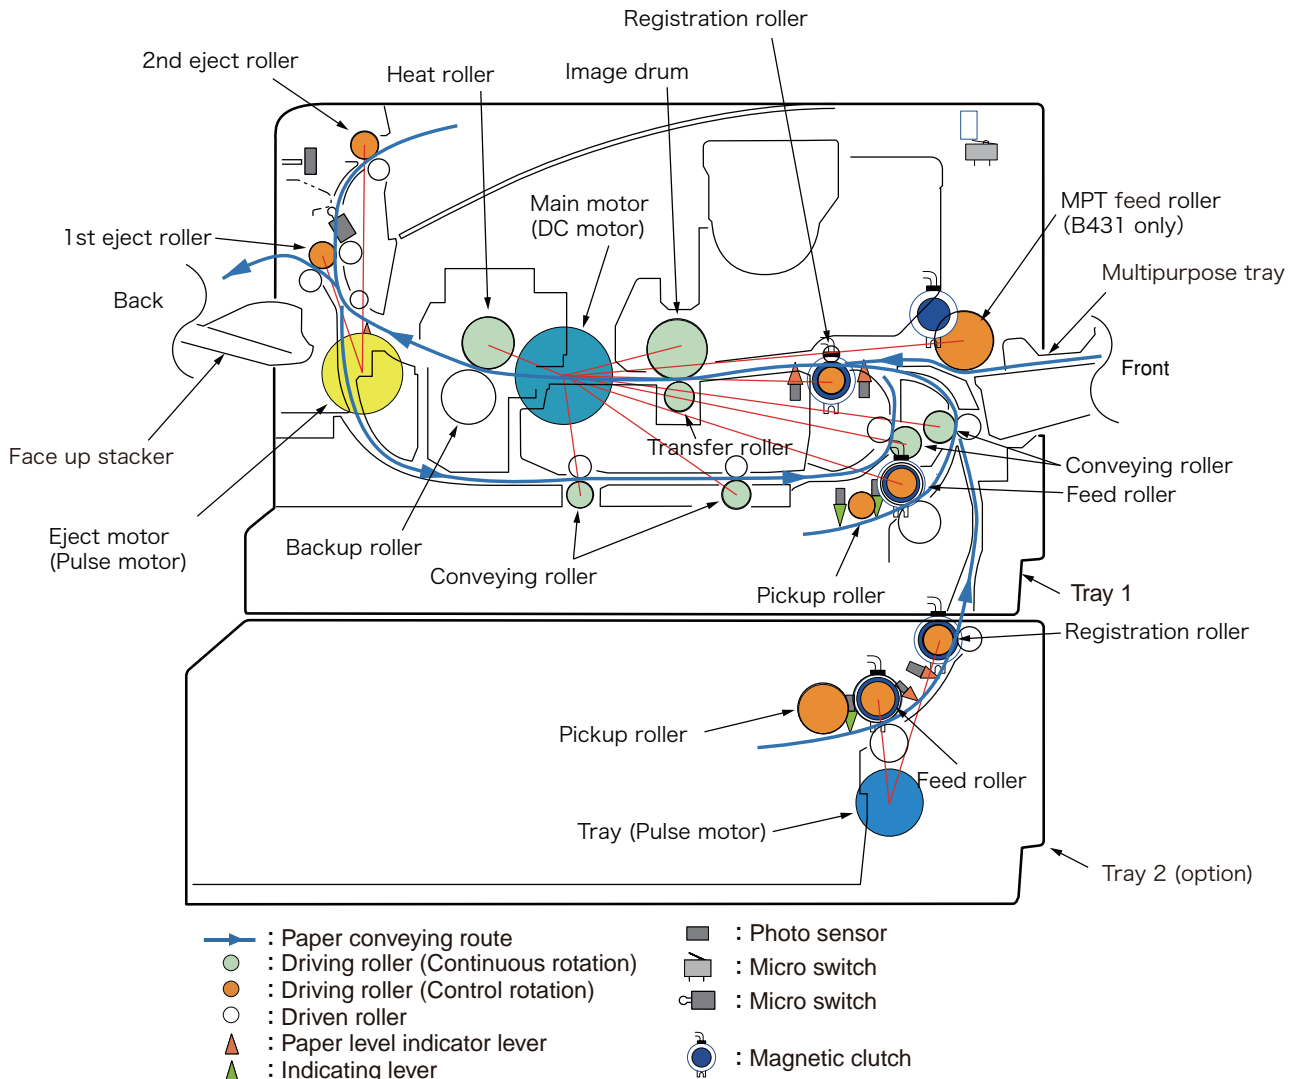

Figure 4-2
3. Pressing the [OK] key starts the test. The unit name starts flashing and the corresponding unit is activated for 10 seconds. (Refer to Figure 4-2.)